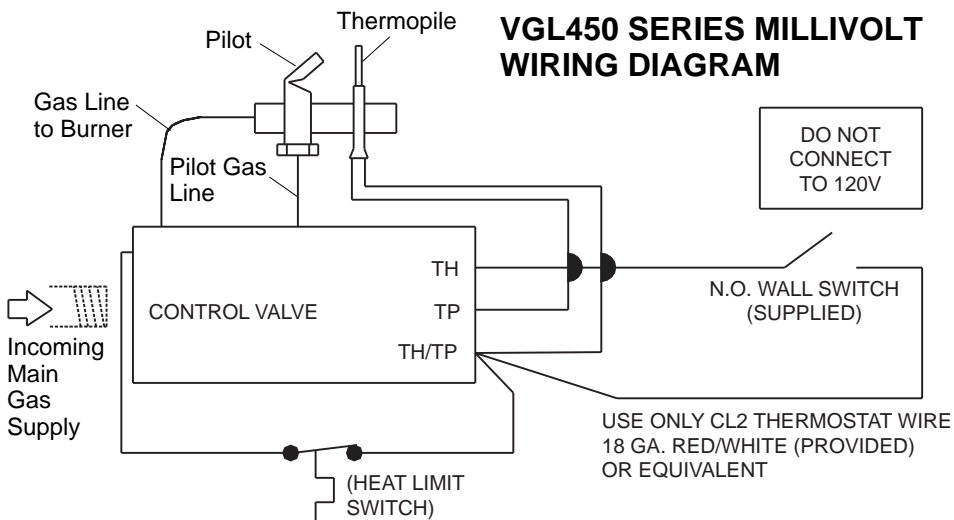

Figure 13 - Wall Switch Wiring Diagram
2. Connect the millivolt wires from terminals TH and TH/TP to wall switch as shown in Figure 13 (both are supplied).
2. Disconnect wall switch wires from TH and TH/TP terminals on control valve (see Figure 13).